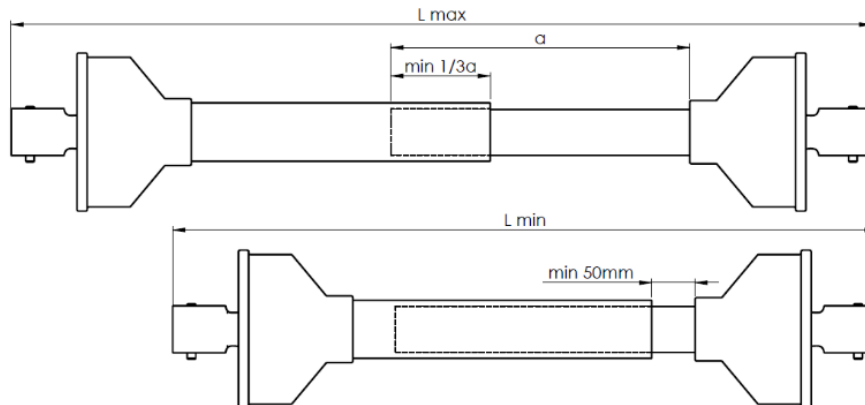

Figure 18. Adjusting the length of the shaft when the spreader is connected to the tractor
- Make sure that the PTO shaft transmitting the tractor's drive is of sufficient length when connected in all possible positions of the tractor in relation to the machine (Figure 18).